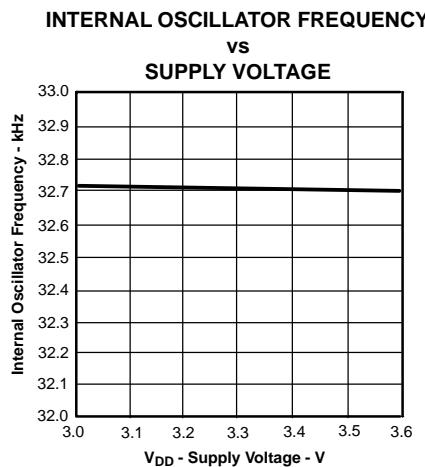

Figure 2-1. Internal Oscillator Frequency vs Supply Voltage
2.3.2 Internal Crystal Oscillator (see Figure 2-1)